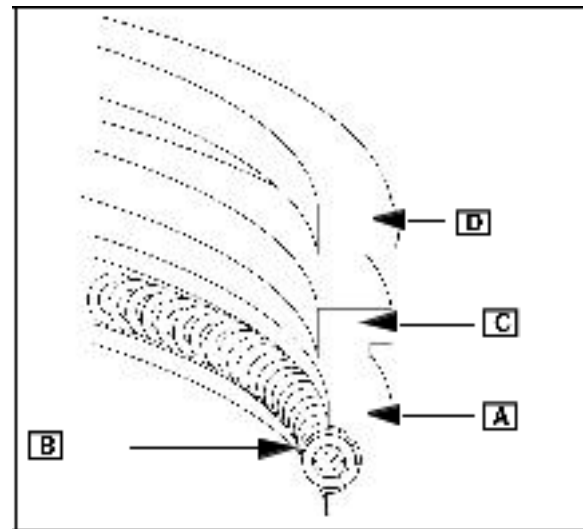

Fig. 16
NOTE: Install gap of oil ring expander (B) 180 degrees from gap in oil control ring ([A] Fig. 16).
Install the top ring ([D] Fig. 16).